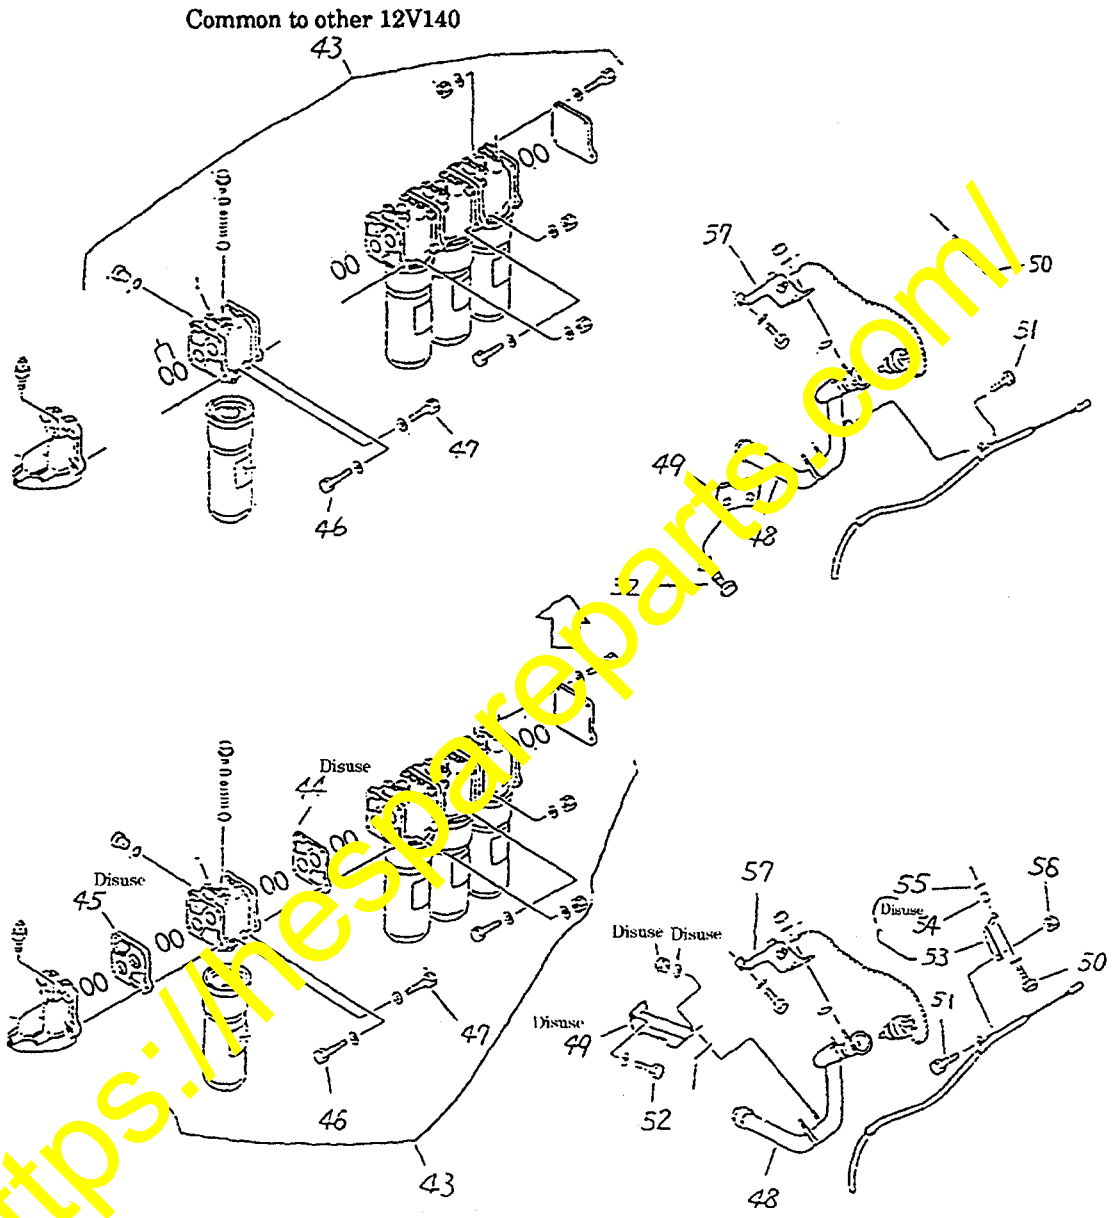

Fig. 37
⑥ Change of oil filter and oil filler on D475A-2 (Fig. 37)